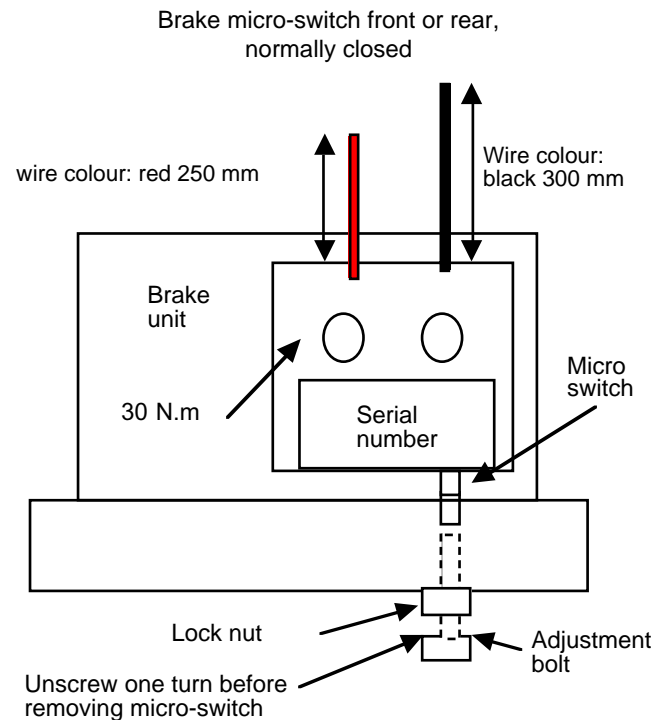

Fig. 2
- Cut and free the wires coming from the connector as indicated on fig 2.